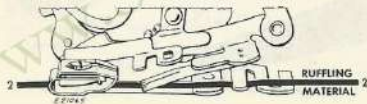

Fig. 66. Correct Position for the Material
3. Insert material to be pleated between two blue blades and under the separator guide (Line 2, Fig. 66).